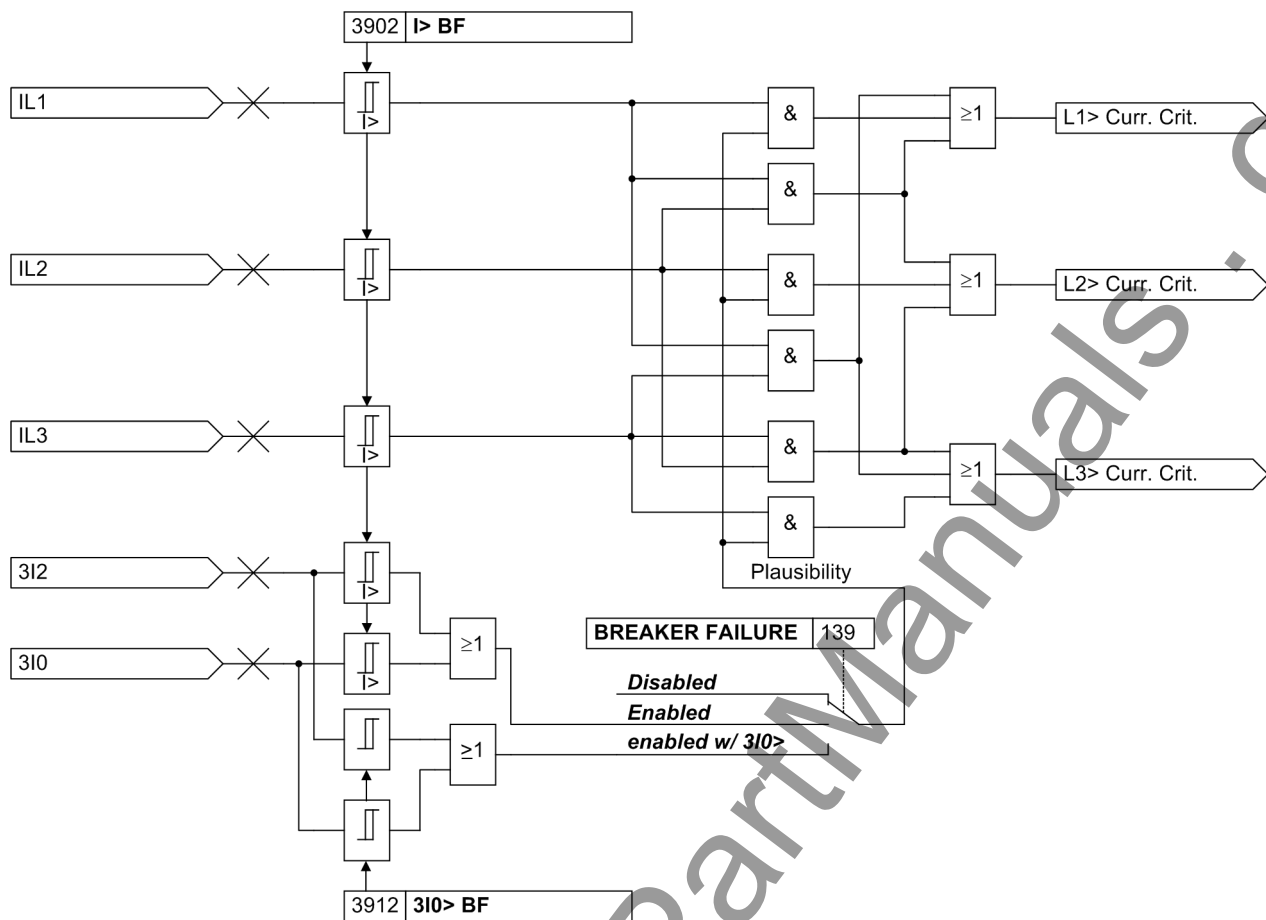
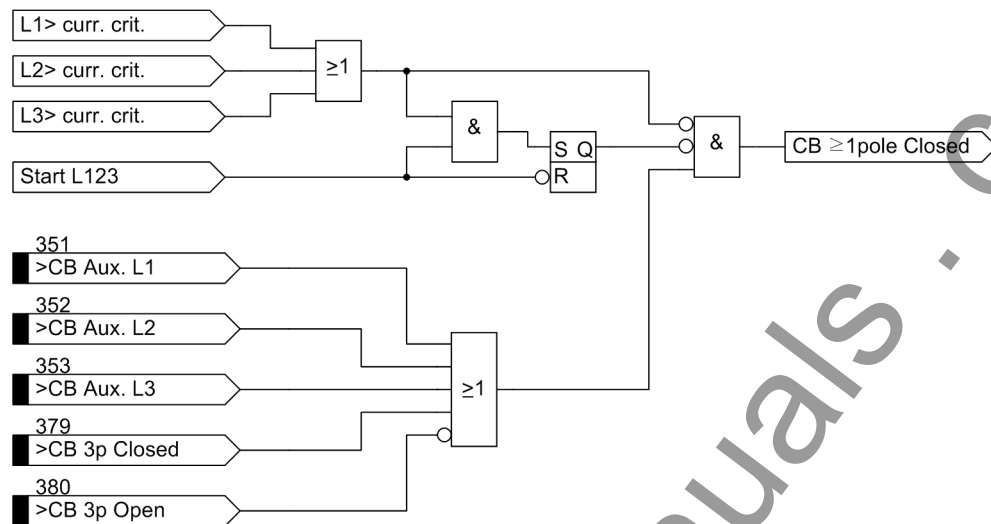
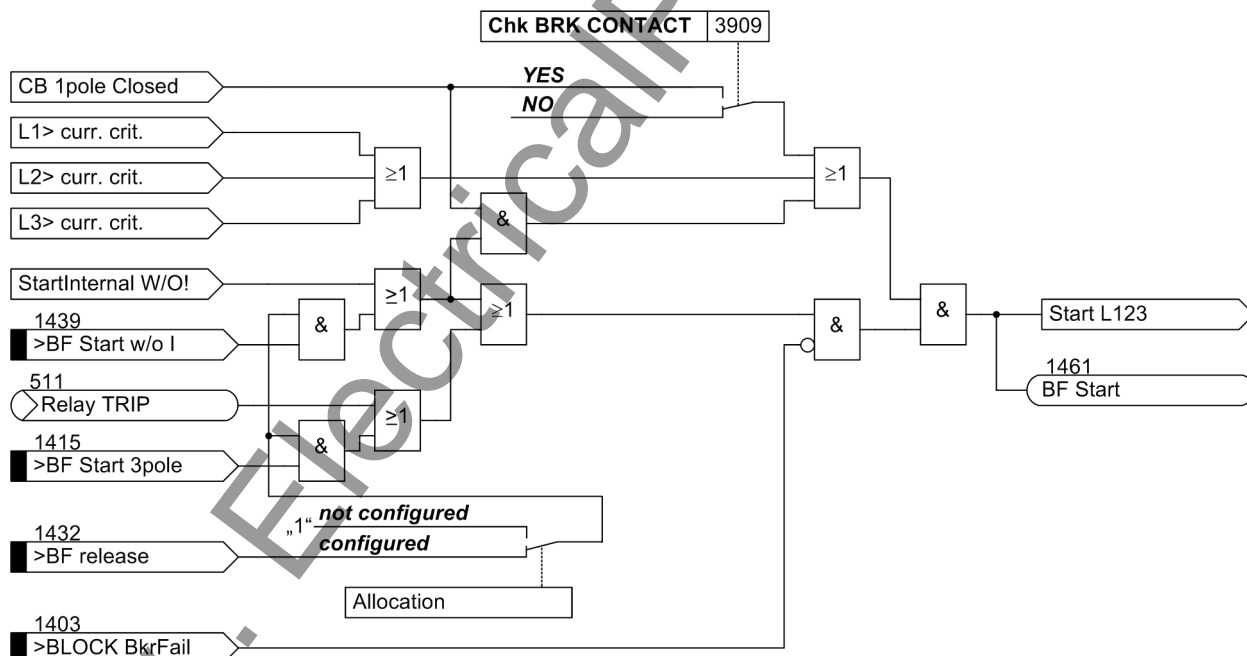
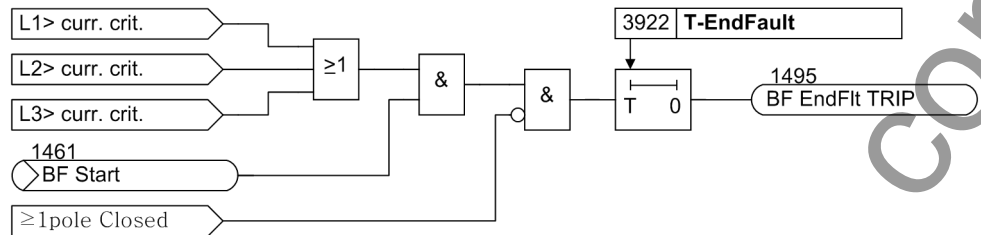

Figure 2-131 Current flow monitoring with plausibility currents $3 \cdot I_0$ and $3 \cdot I_2$
Figure 2-133 Creation of signal "CB $\geq$ any pole closed"
Figure 2-134 Breaker failure protection with common phase initiation
Figure 2-143 Operation scheme of end fault protection
The currents are monitored and compared with the set threshold. Besides the three phase currents, two further current detectors are provided in order to allow a plausibility check. For this plausibility check, a separate threshold value can be used if the configuration is set accordingly (see Figure 2-131).
It is possible to disable the auxiliary contact criterion. If you set the parameter switch **Chk BRK CONTACT** (Figure 2-134 top) to **NO**, the breaker failure protection can only be started when current flow is detected. The position of the auxiliary contacts is then not evaluated even if the auxiliary contacts are connected to the device.
On the other hand, current flow is not a reliable criterion for proper operation of the circuit breaker for faults which do not cause detectable current flow (e.g. Buchholz protection). Information regarding the position of the circuit breaker auxiliary contacts is required in these cases to check the correct response of the circuit breaker. For this purpose, the binary input „>BF Start w/o I“ No. 1439 is provided (Figure 2-134 left). This input initiates the breaker failure protection even if no current flow is detected.
Figure 2-134 shows the operating principle. When the trip signal appears from any internal or external feeder protection and at least one current flow criterion (according to Figure 2-131) is present, the breaker failure protection is initiated and the corresponding delay time(s) is (are) started.
If the current criterion is not fulfilled for any of the phases, the position of the circuit breaker auxiliary contact(s) is queried provided that this is available according to Figure 2-133. If the circuit breaker poles have individual auxiliary contacts, the series connection of the three normally closed (NC) auxiliary contacts is used. The circuit breaker has operated correctly after a three-pole trip command only when none of the phases carries current or when all three NC auxiliary contacts have closed.
Figure 2-133 illustrates how the internal signal „CB pole ≥L1 closed“ is created (see Figure 2-134 left) if at least one circuit breaker pole is closed.
The end fault is recognized when the current continues flowing although the circuit breaker auxiliary contacts indicate that the breaker is open. An additional criterion is the presence of any breaker failure protection initiate signal. Figure 2-143 illustrates the functional principle. If the breaker failure protection is initiated and current flow is detected (current criteria „L* > current criterion“ according to Figure 2-131), but no circuit breaker pole is closed (auxiliary contact criterion „any pole closed“), then the timer **T-EndFault** is started. At the end of this time an intertrip signal is transmitted to the opposite end(s) of the protected object.
Additionally, the current criteria (from Figure 2-131) are processed. Pole discrepancy can only be detected when current is not flowing through all three poles, i.e. through only one or two poles. When current is flowing through all three poles, all three poles must be closed even if the breaker auxiliary contacts indicate a different status.